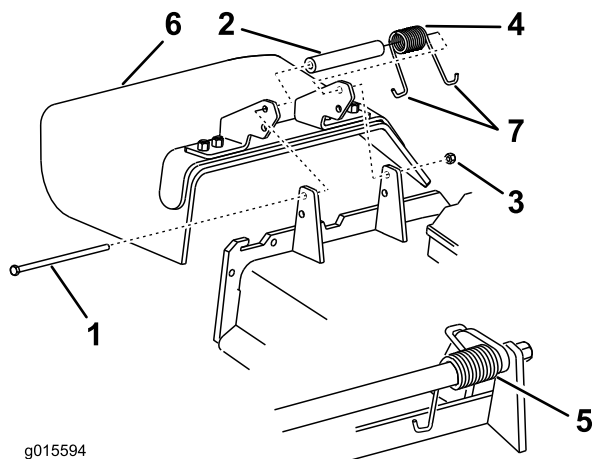

Figure 89
1. Remove the locknut, bolt, spring and spacer holding the deflector to the pivot brackets (Figure 89). Remove damaged or worn grass deflector.
**Note:** Make sure one J end of spring is installed behind deck edge before installing the bolt as shown in Figure 89.
3. Install bolt and nut. Place one J hook end of spring around grass deflector (Figure 89).